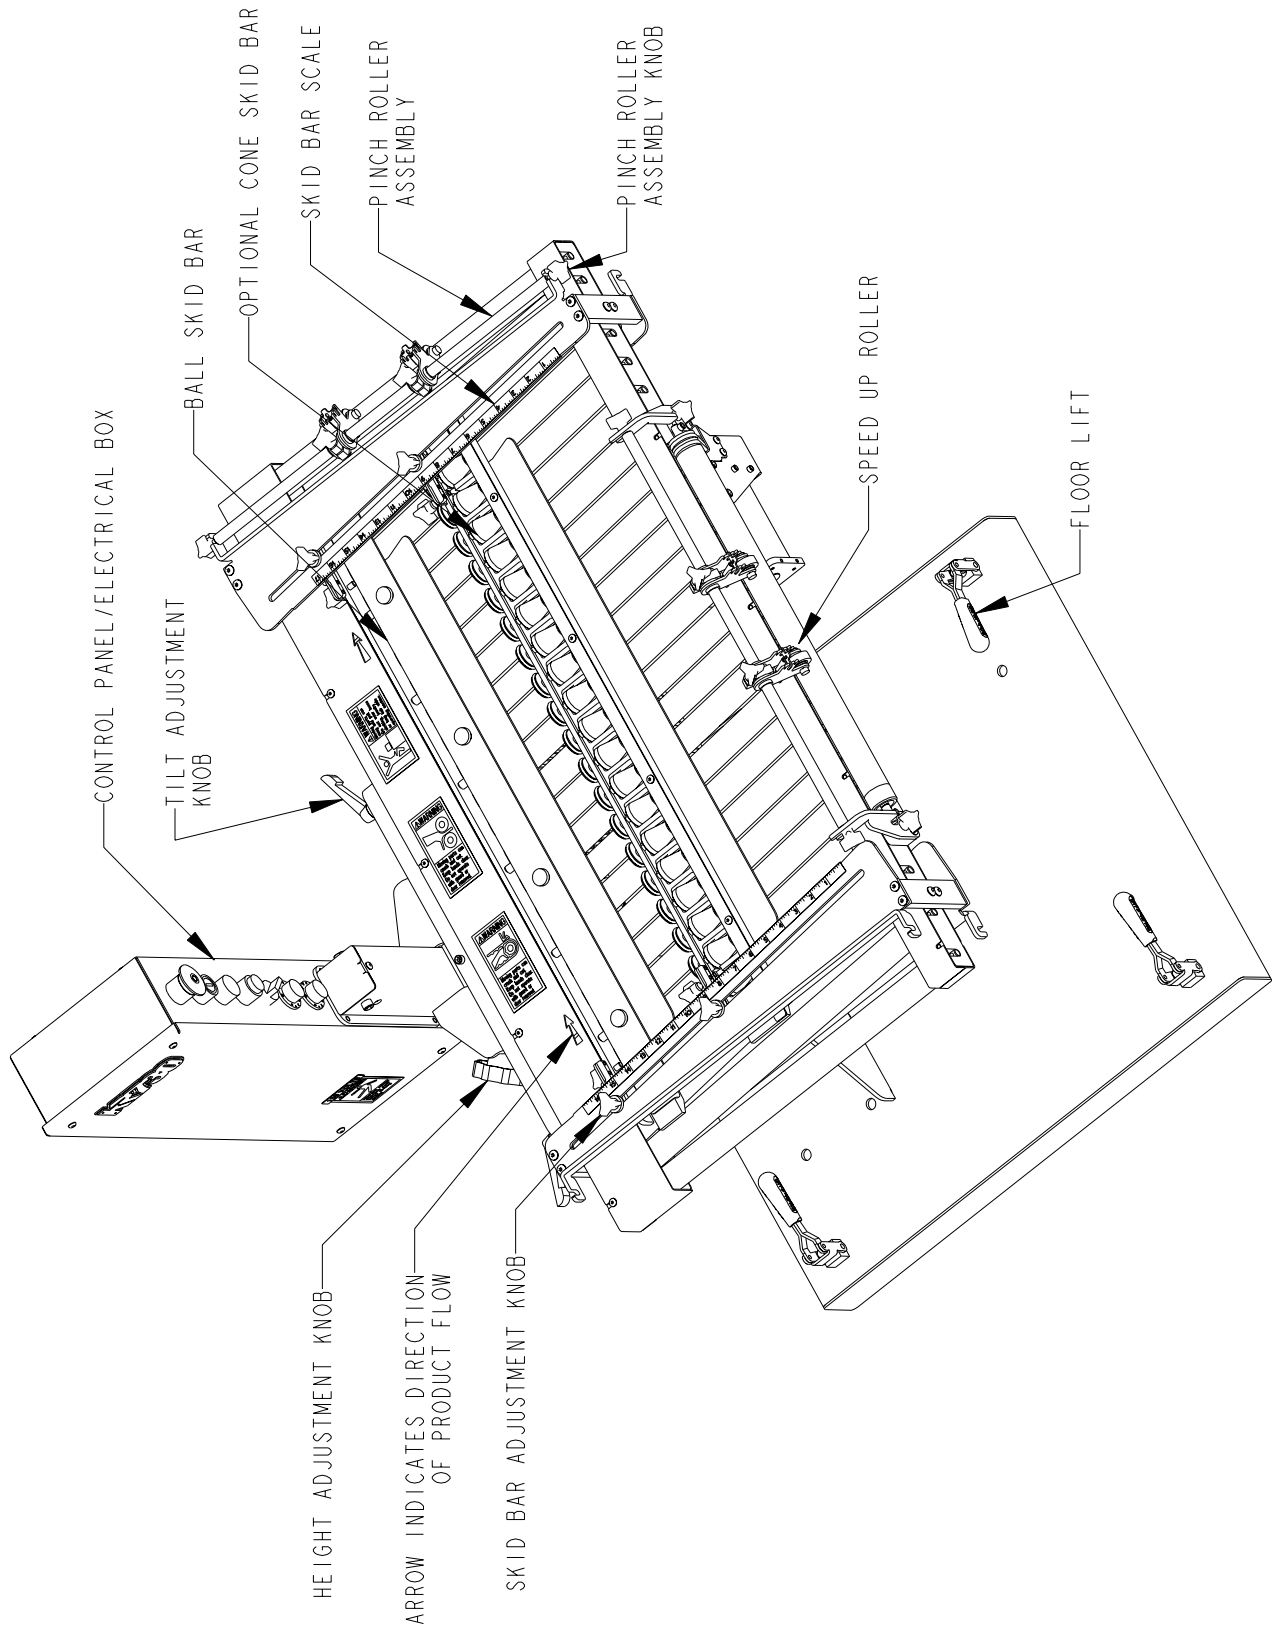

FIGURE 2.0
4.1 COMPONENT DESCRIPTION (see Figure 2.0 through 7.0)
4.1.1 Main Component Description (see Figure 2.0)